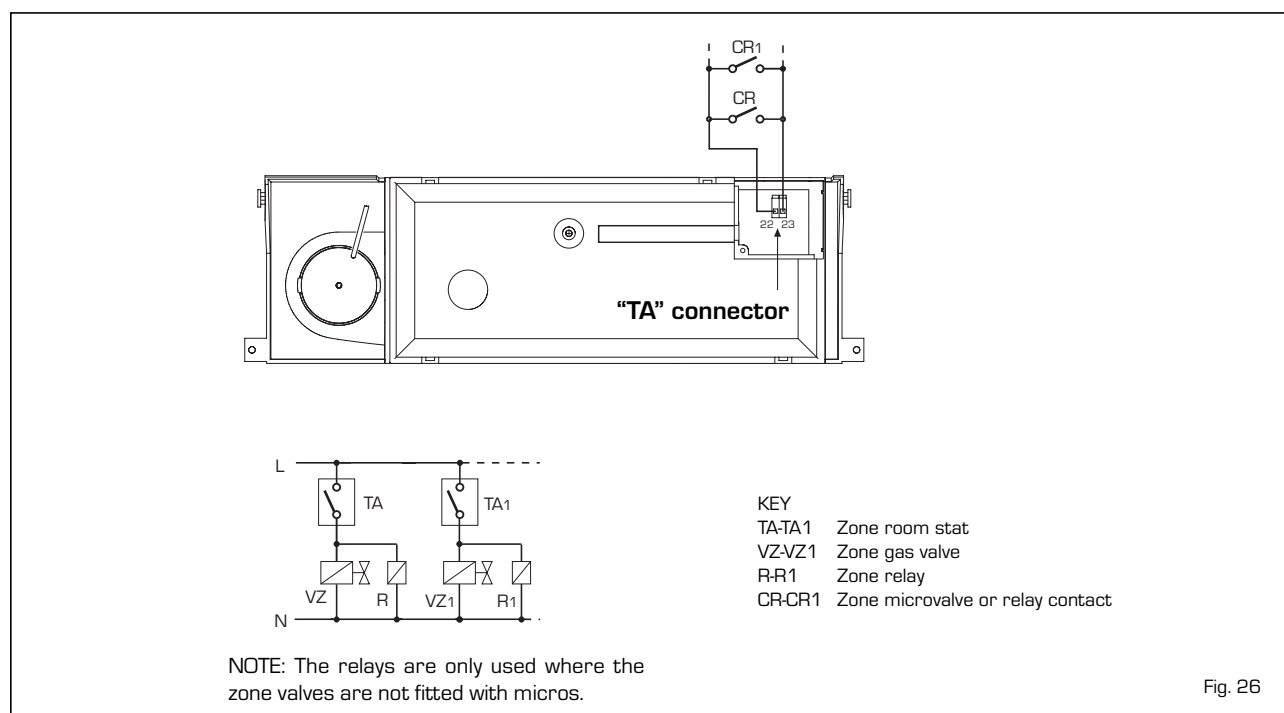

Fig. 26
The micro or relay contact connection is made to terminals 22-23 (TA) of the circuit board after having removed the jumper (fig. 26).